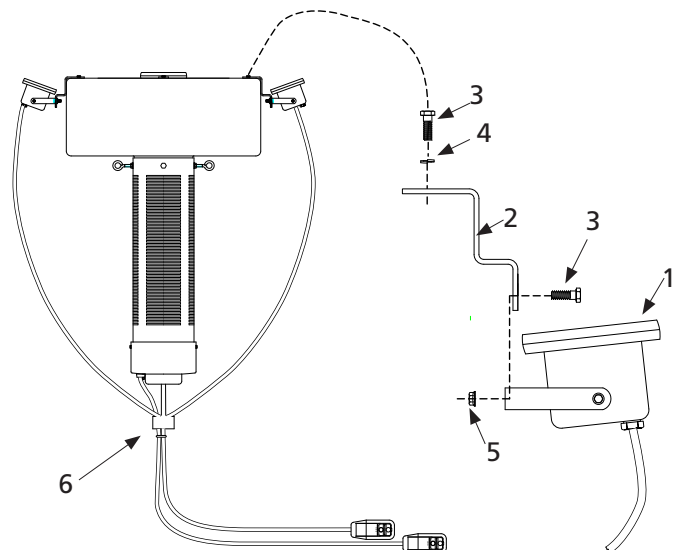

Figure 1 - Installation
- a. 7/16" wrenches (2)
2. Install Nightbright lighting system to float. (See Fig 1).
- a. Assemble lights (1) to mounting brackets (2) using bolts (3), and locknuts (5).
- b. Attach light/bracket assemblies to the threaded inserts in top of float, using bolts (3) and lockwashers (4). (Install in alternating inserts if 6 inserts are present in float.)
- c. Adjust lights to provide desired illumination. (See Fig 1).